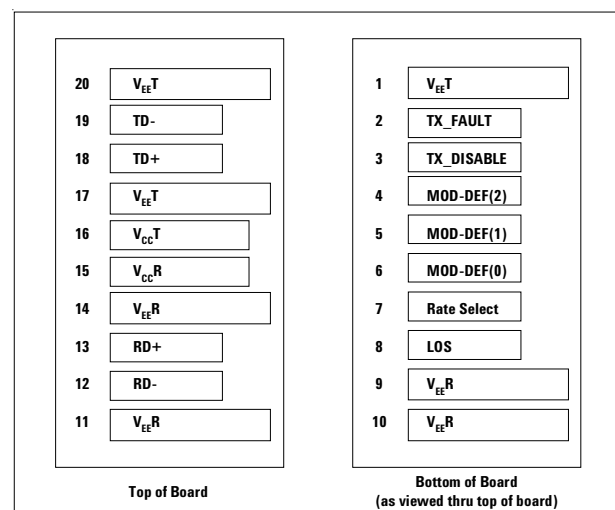
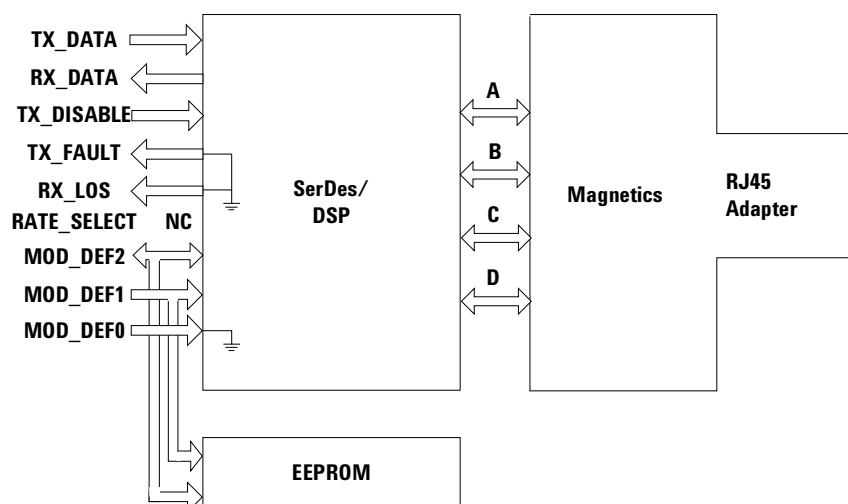
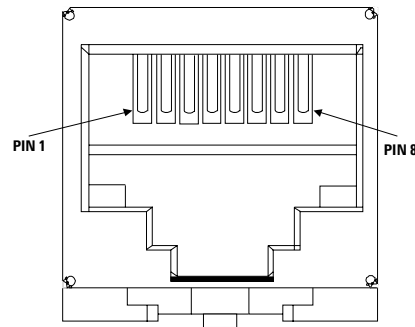

Figure 2: 20-pin Connection Diagram of Module Printed Circuit Board
Figure 1: Transceiver Functional Diagram
Figure 3: MDI (RJ 45 Jack) Pin Assignment
Figure 1 illustrates the major functional components of the HBCU-5710R. The 20-pin connection diagram of module printed circuit board of the module is shown in Figure 2. Figure 3 depicts the pin assignment of the MDI (RJ45 jack).
The HBCU-5710R can be installed in or removed from any MultiSource Agreement (MSA) compliant Small Form Pluggable port whether the host equipment is operating or not. The module is simply inserted, small end first, under finger-pressure. Controlled hot-plugging is ensured by design and by 3-stage pin sequencing at the electrical interface to the host board. The module housing makes initial contact with the host board EMI shield, mitigating potential damage due to Electro-Static Discharge (ESD). The module pins sequentially contact the (1) Ground, (2) Power, and (3) Signal pins of the host board surface mount connector. This printed circuit board card-edge connector is depicted in Figure 2.
Data I/Os are designed to accept industry standard differential signals. In order to reduce the number of passive components required on the customer's board, Avago Technologies has included the functionality of the transmitter bias resistors and coupling capacitors within the module. The transceiver is compatible with an "ac-coupled" configuration and is internally terminated. Figure 1 depicts the functional diagram of the HBCU-5710R.